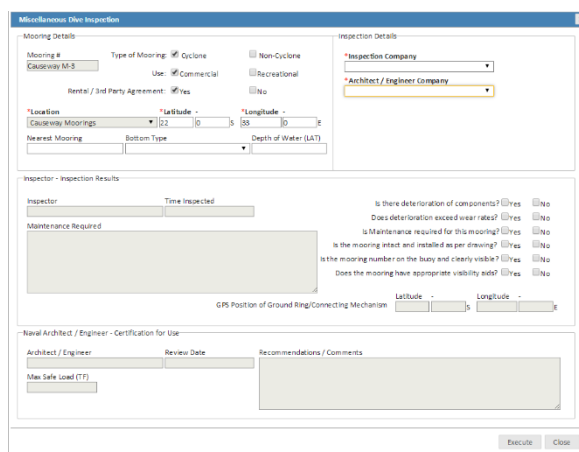

Figure 8.1
- The form shown in figure 8.1 will appear. Fill out all the information and then press 'Execute'.